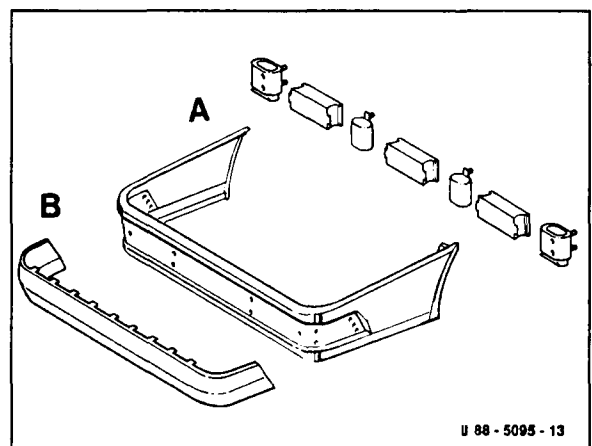

Figure 20
5. Remove rub strip (B, Figure 20) by unscrewing 2 Phillips head screws on left and right ends of bumper.